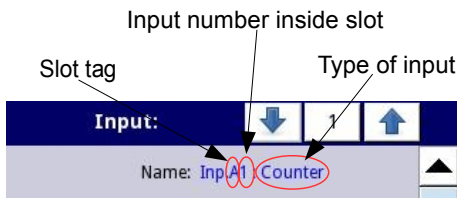

Fig. 7.63. Description of **Name** parameter in **Built-in inputs** menu
- **Name** - each input already has a name given by the device and user cannot change it - see Fig. 7.63,